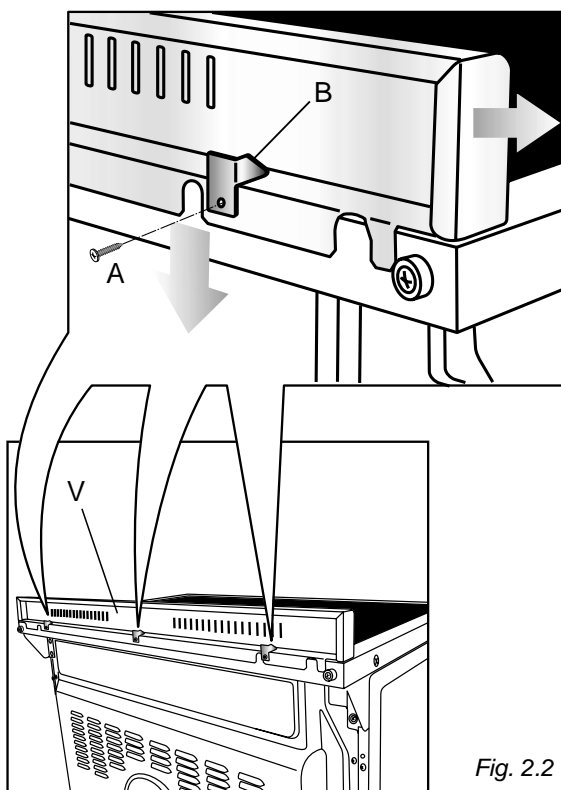

Fig. 2.2
Before installing the cooker, assemble the backguard "V" (fig. 2.2).
- The backguard must be fixed to the cooktop using the three supports "B" supplied with the appliance (see fig. 2.2).